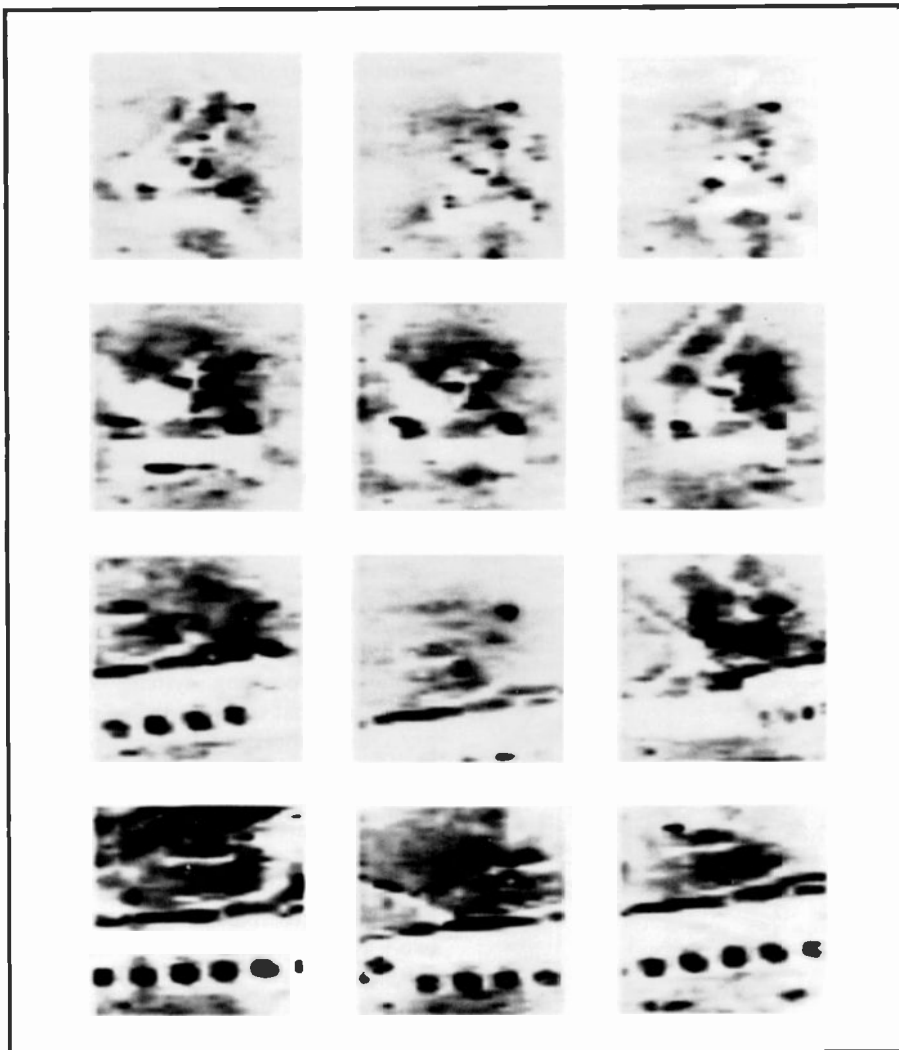

Fig. 7. Thermal image of tank sensed from infrared CCD focal plane array.
**CCD.** RCA is also a significant producer of CCD components. The CCD process line is used to fabricate custom CCDs for military applications such as channelized receiver systems and radar signal classifiers. A very significant development is the infrared CCD Focal Plane Array sensor based on the Schottky-barrier principle. This technology is being developed (1) to enable identification of tanks and other targets at night and through battlefield smoke and haze, and (2) to guide weapons automatically (see Fig. 7).